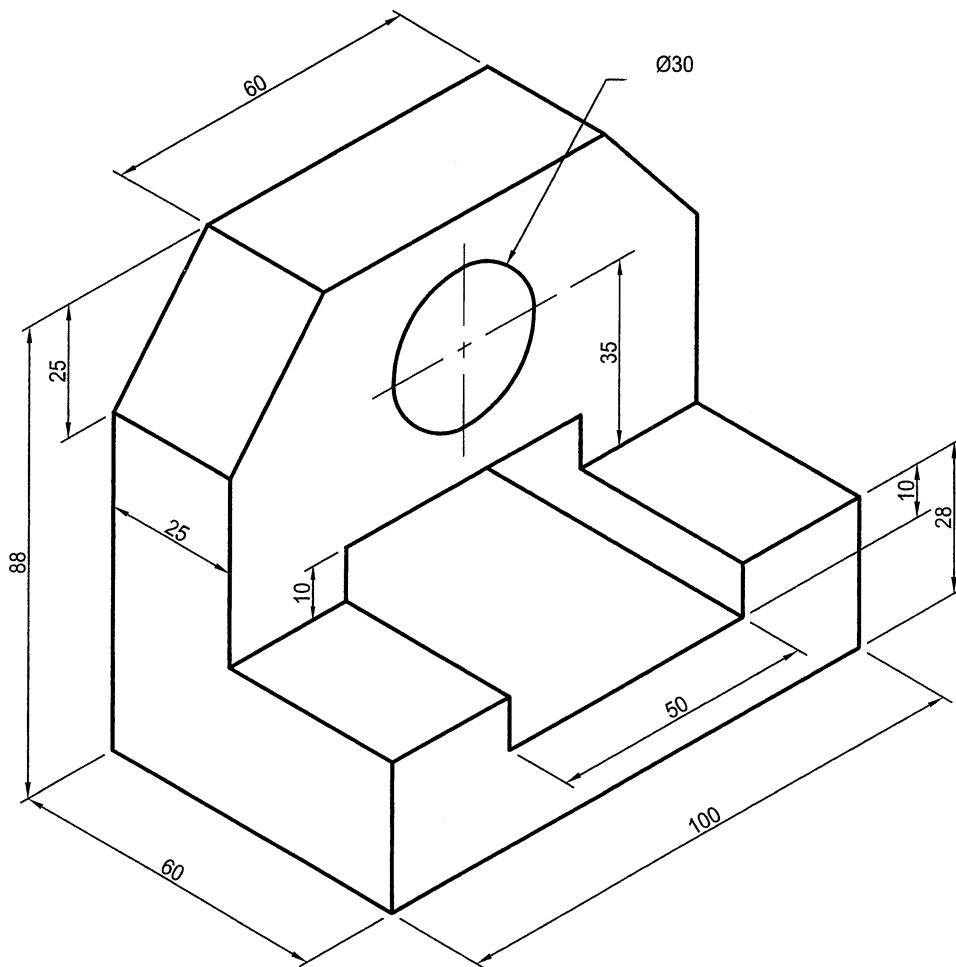

Figure 14
- (b) Using 'Boolean operations', draw annotated sketches on page 5 to show the major steps required in constructing the 3D CAD model of the object shown in Figure 14. (20 marks)